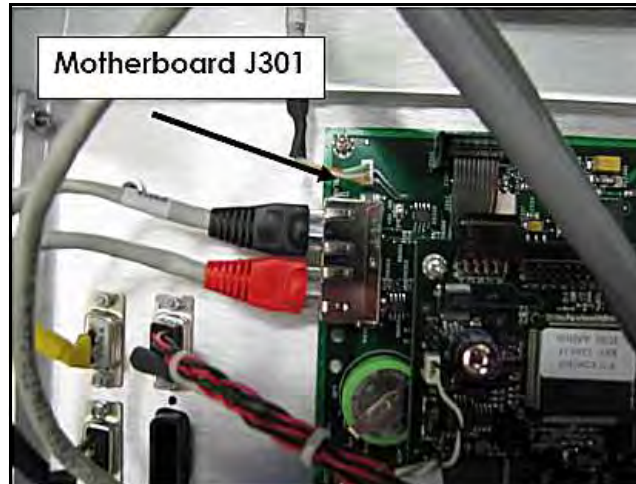

Figure B-22 Motherboard Connection
9. Connect the calibrated leak temperature cable end labeled P1A to the leak assembly board connector J1A. Then connect the end labeled P301 to the motherboard connector labeled J301 (Figure B-21 and Figure B-22).